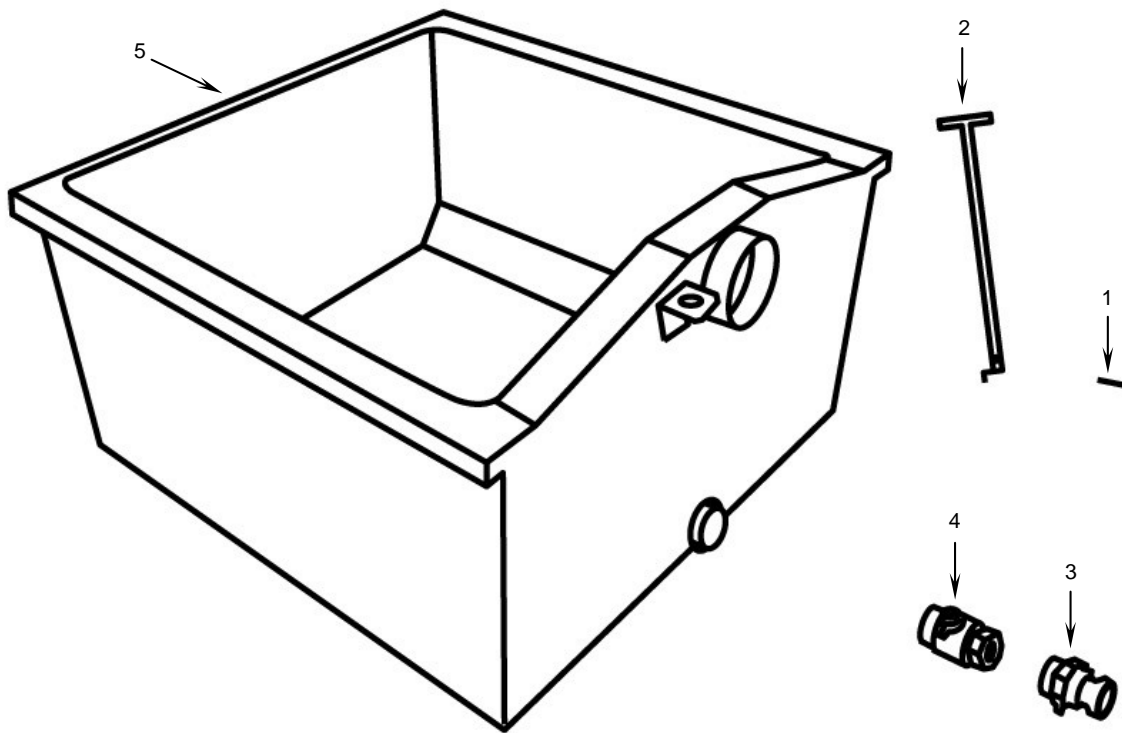

Figure 1. Replacing Sink Components.
- a. Remove cotter pin (**Figure 1, Item 1**) (FSC-90) or the straight pin (**Figure 1, Item 1**) (FSC-2) from bottom of valve handle (**Figure 1, Item 2**).
- b. Remove valve handle (**Figure 1, Item 2**).
- c. Unscrew the adapter (**Figure 1, Item 3**) from drain valve (**Figure 1, Item 4**) at rear of sink body (Figure 1, Item 5).
- d. Unscrew the drain valve (**Figure 1, Item 4**) from sink body (**Figure 1, Item 5**).
- b. Thread adapter (**Figure 1, Item 3**) into drain valve (**Figure 1, Item 4**) and tighten.
- c. Thread drain valve (**Figure 1, Item 4**) onto sink body (**Figure 1, Item 5**).
- d. Align drain valve (**Figure 1, Item 4**) with valve handle (**Figure 1, Item 2**) stem and slide into place.
- e. Install cotter pin (**Figure 1, Item 1**) (FSC-90) or straight pin (**Figure 1, Item 1**) (FSC-2) through valve handle (**Figure 1, Item 2**) and drain valve (**Figure 1, Item 4**).